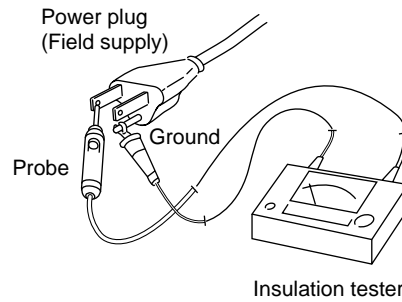
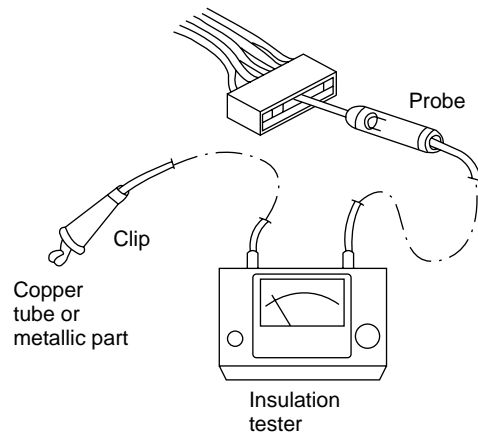

Fig. 1
Fig. 2
Clamp the grounding prong of the power plug with a lead clip of the insulation resistance tester and measure the resistance by placing a probe on either of the two power blade. (Fig. 1)
Then, also measure the resistance between the grounding prong and other power blade. (Fig. 1)
Disconnect the lead wires of the desired electric part from terminal plate, switch, capacitor, etc. Similarly disconnect the connector. Then measure the insulation resistance. (Figs. 2 to 3)
- (1) Open the air intake.
- (2) Remove the screw holding the grille in place. (Fig. 1)
- (3) Slide the side of the grille to the left and right to disengage the tabs on the left and right sides of the grille from the slots.
- (4) Pull the bottom portion of the grille toward you while paying attention to the ventilator lever. (Fig. 2 and 4)